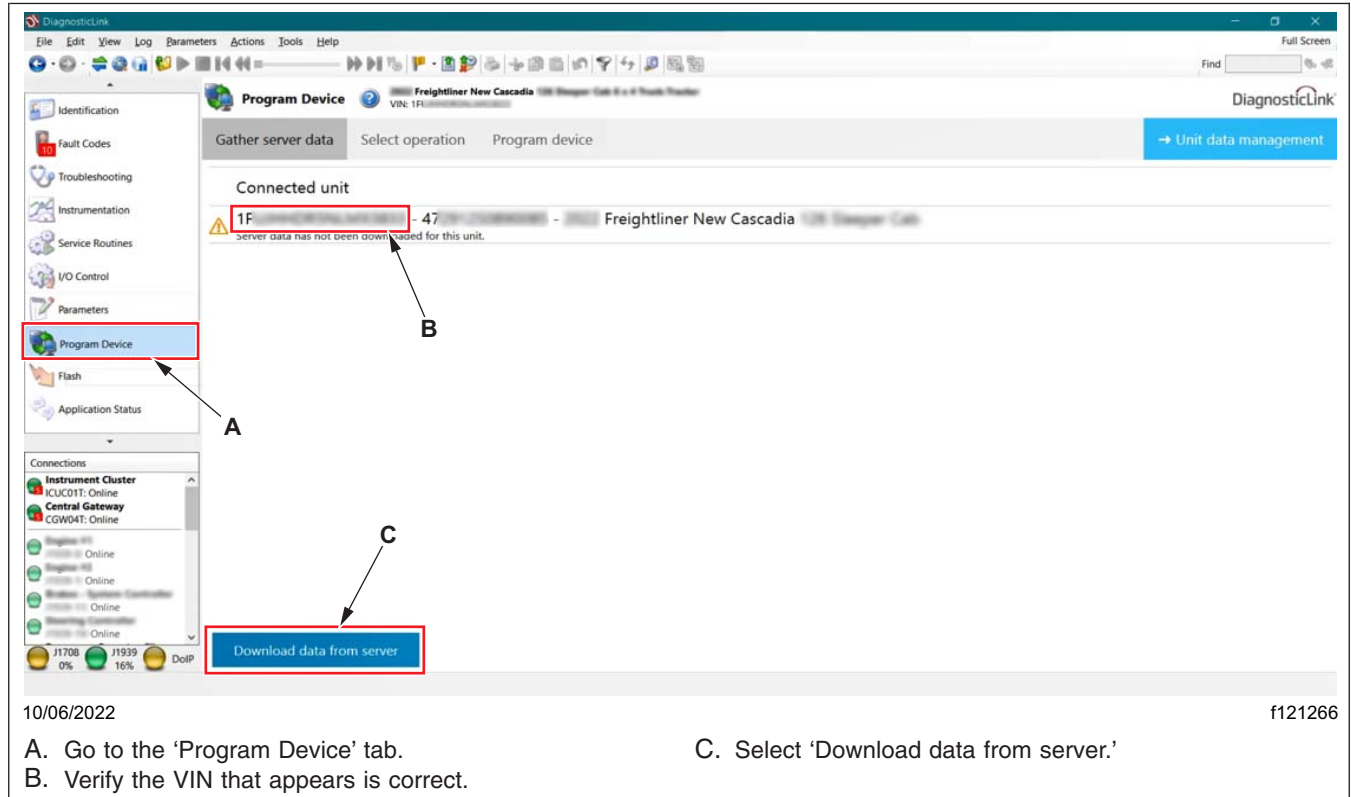

Fig. 2, Downloading the Data from the Server
8. Go to the 'Program Device' tab, and make sure that the vehicle identification number (VIN) that appears is correct. Select 'Download data from server.' See Fig. 2.